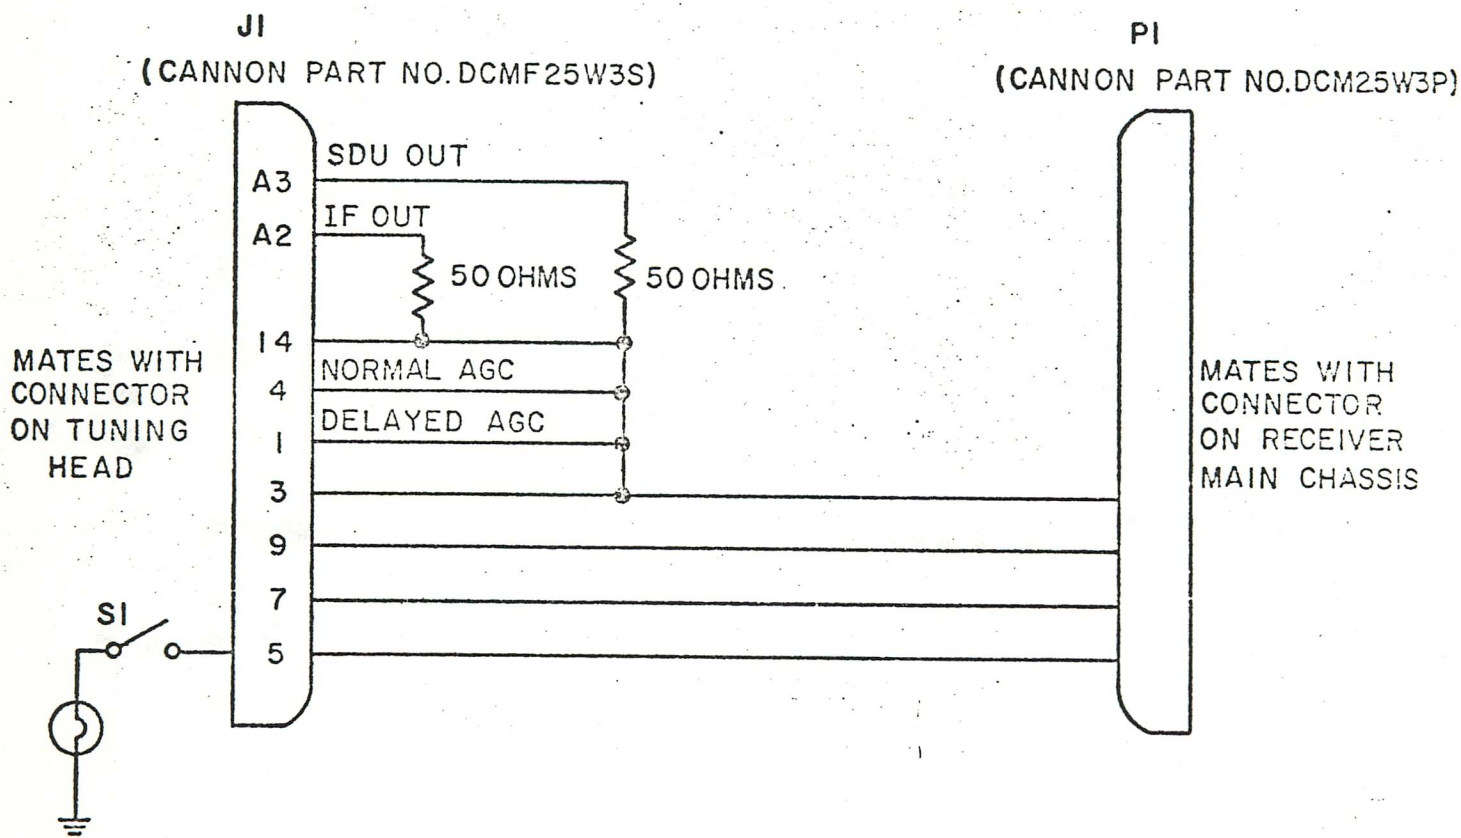

Figure 5-2. Test Fixture.
- Test Fixture, Figure 5-2
- (1) Remove tuning unit from main chassis and connect test fixture, Figure 5-2, to supply power inputs.
- (2) Rotate front panel turn crank to 250 MHz; center FINE TUNING control.
- (3) Use the RCA VTVM Model WV-98C to measure voltage. Table 5-1 shows the voltages normally encountered.
- (2) Rotate front panel turn crank to 500 MHz; center FINE TUNING control.
- (3) Use the RCA VTVM model WV-98C to measure voltage. Table 5-2 shows normal voltages encountered.